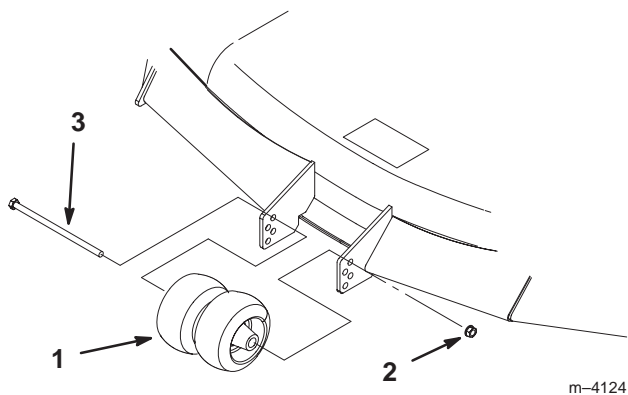

Figure 21
2. After adjusting the height-of-cut, remove the bolt and nut (Fig. 21).
3. Select a hole so that the gage wheel is positioned to the nearest corresponding height-of-cut desired (Fig. 21).
4. Reinstall the bolt, center rollers, and nut (Fig. 21).